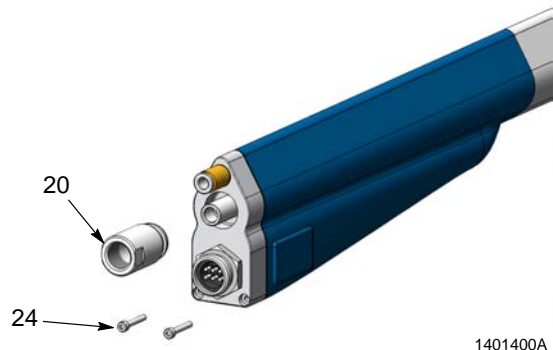

Figure 3 Removing Heat Sink Screws and Lock Nut
5. See Figure 3. Remove the two screws (24) with a 2.5 mm hex wrench, then unscrew the lock nut (20) from the powder tube.